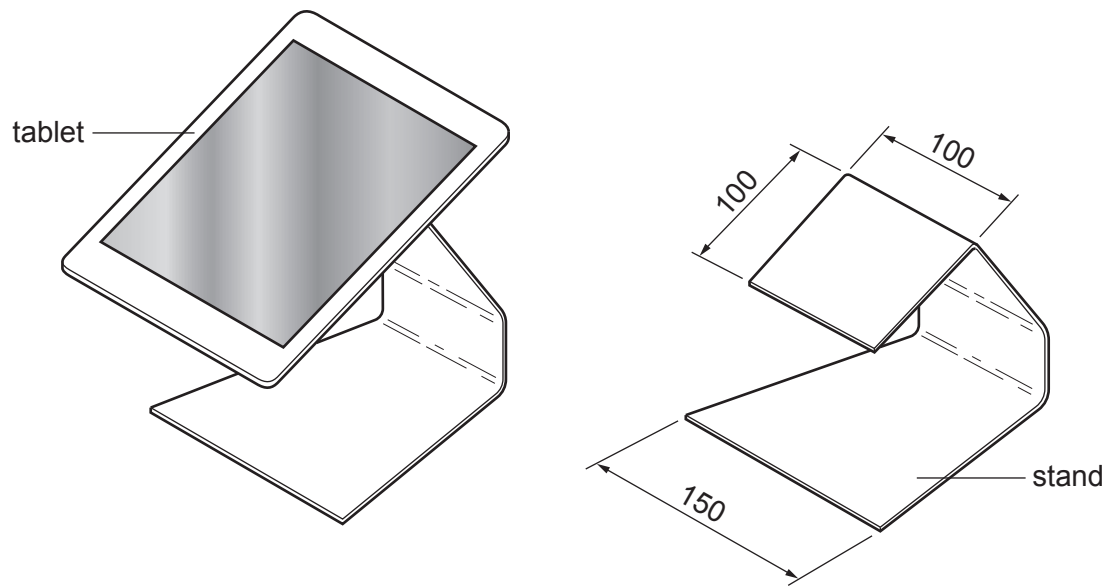

Fig. 12.1
- 12 Fig. 12.1 shows views of an incomplete design of a stand for a tablet. The stand is made from 5 mm thick acrylic sheet.